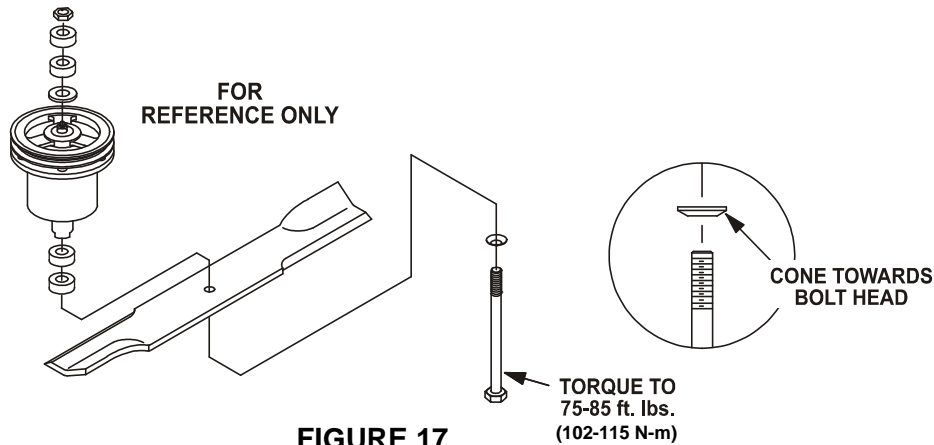

FIGURE 17
- g) Re-install the blades (if they were removed) and torque blade bolts to 75-85 ft/lbs (102-115 N-m). Be sure the spring disk washer cone is installed toward the bolt head (See Figure 17).